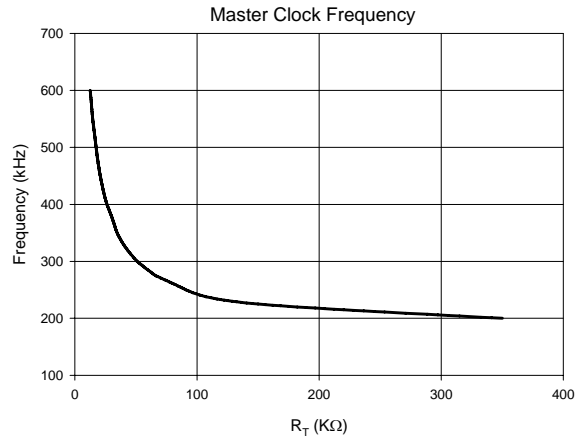

Figure 18.  $R_T$  vs. Frequency
The clock frequency on the oscillator is set using an external resistor, connected between R(T) pin and ground. The frequency follows the graph as shown in Figure 18. The minimum clock frequency is 200KHz which is when R(T) pin is left open. Select the value of R(T) as shown in the equation below. This equation is valid for all  $F_{OSC} > 200\text{kHz}$ .